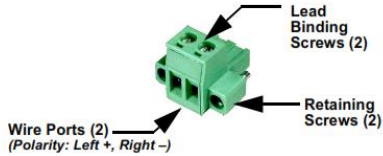

Figure 3, DC Power Connector
4. **Connect primary power.** Input power must be 10.0 to 60 Vdc and capable of providing at least 15 watts. A power connector with screw-terminals is provided (Figure 3, DC Power Connector). Strip the wire leads to 6 mm (1/4 inch) and insert them into the wire ports. Be sure to observe proper polarity as shown. Tighten the binding screws securely.